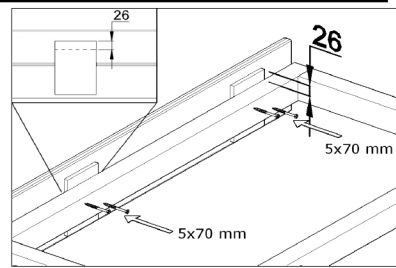

Figure 3
3. Fasten the front plank to the frame with screws. (Figure 3)